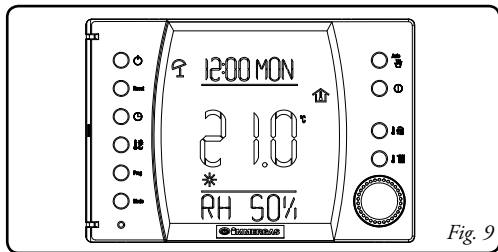

Fig. 9
- **Working in the summer mode.** By pressing the  push button you go to the summer mode () the Super CAR enables the boiler to produce domestic hot water only, turning the room heating mode off (see fig. 9). The current day and time, room temperature, the weather forecast and the percentage of humidity are shown on the display.